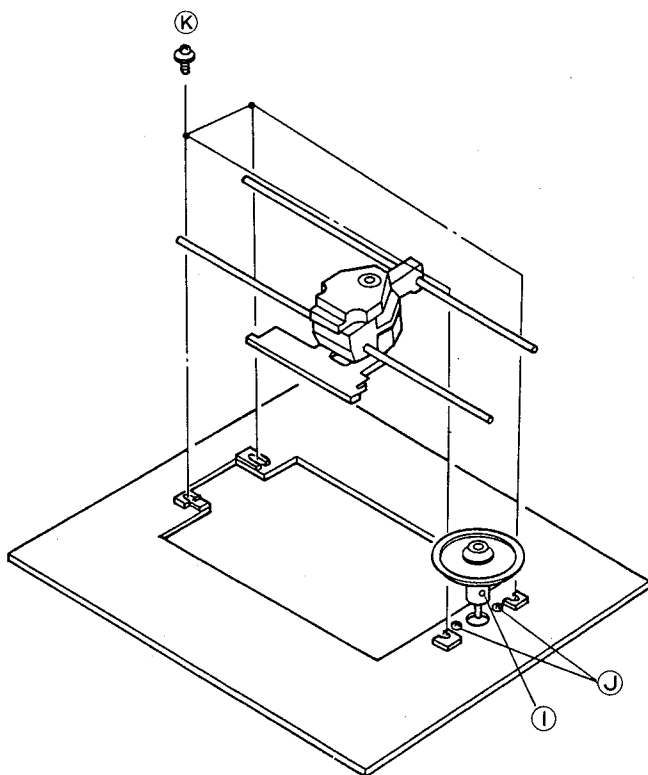

Figure 7
(1-3) Pull out the table then remove the (K) screw, allowing for removal of the optical pickup rail by rail. (Figure 7)
### 2. Removal of Spindle Motor (Figure 7)